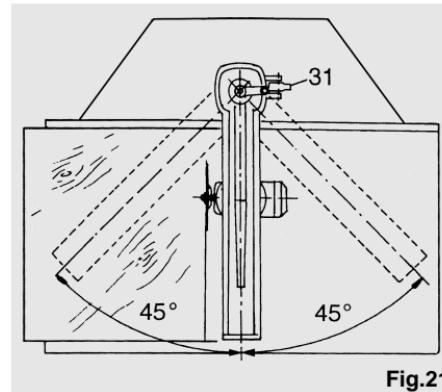

Fig.21
- Turn the arm to the 0° position as shown in figure 21, then stop the arm rotation by inserting lever (31) in the specially-designed slot.
- Rest a board on the abutting straightedge and cut it for the whole carriage travel; then check if the cut is squared (see figure 21).